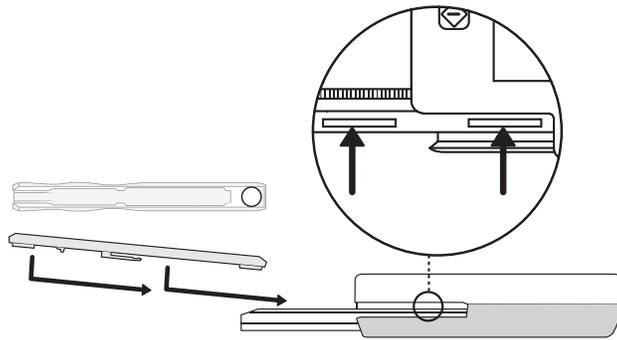

Fig. 19 Re-insert Strip Tray
4. Replace Strip Tray into the analyzer. Insert the end with the white dot first, aligning the guides on the bottom of the Strip Tray with the slots in the Tray Carriage (see arrows, Fig. 19). Tray will gently snap into place.